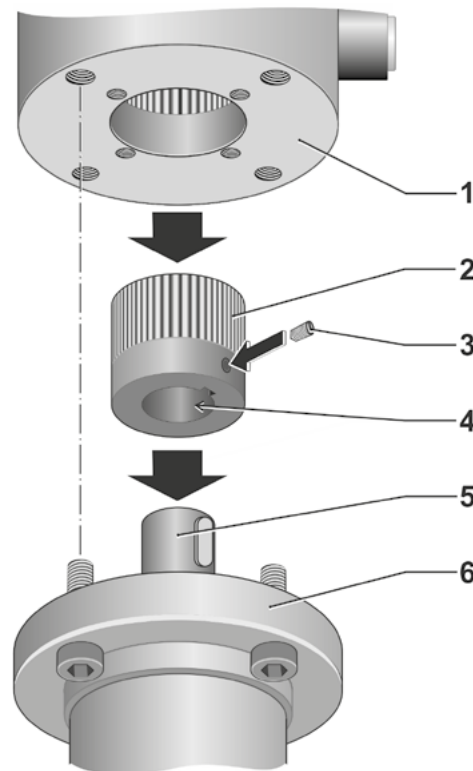

Fig. 1: Assembly with coupling
1. Slightly grease valve shaft (fig. 1, item 5) and splines of the coupling (item 2).
3. Place part-turn actuator (fig. 1, item 1) onto valve (item 6):